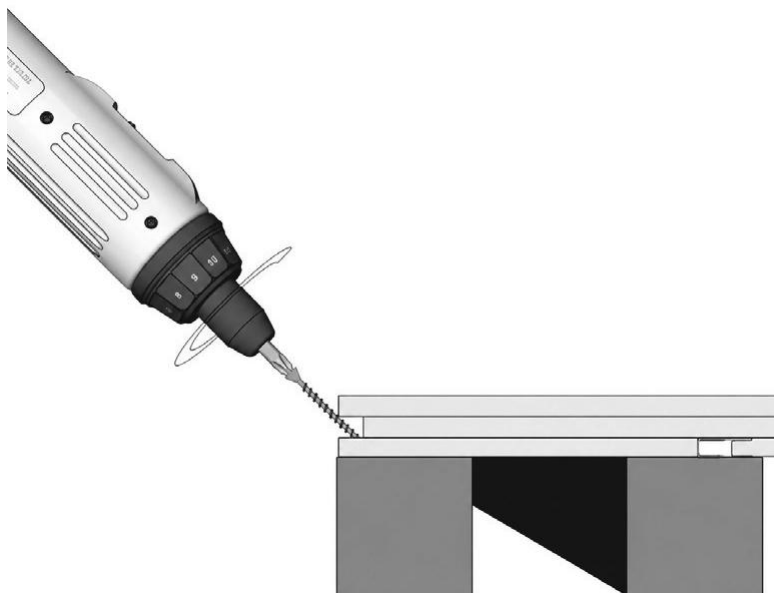

FIG. 16 – OUTER BOTTOM EDGE SCREWED AT AN ANGLE
- 01 With the picture-frame board in place, screw through its outer bottom edge at an angle, securing it to the joist (fig. 16). Pre-drill pilot holes in the deck boards 2 mm wider than the screw shank; do not over-drive screws into the deck boards, to avoid the material splitting.